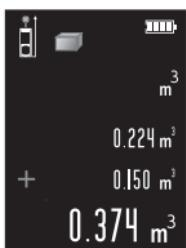

Fig. 6
Step3 – short press button , device calculates the sum and shows in the major display area as Fig. 6